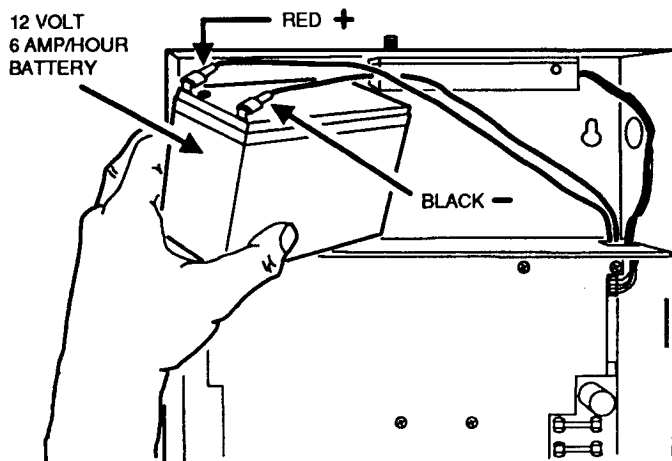

Figure 25. Backup Battery Installation
STEP 2 Place the battery on the cabinet shelf above the main circuit board (see Figure 25).